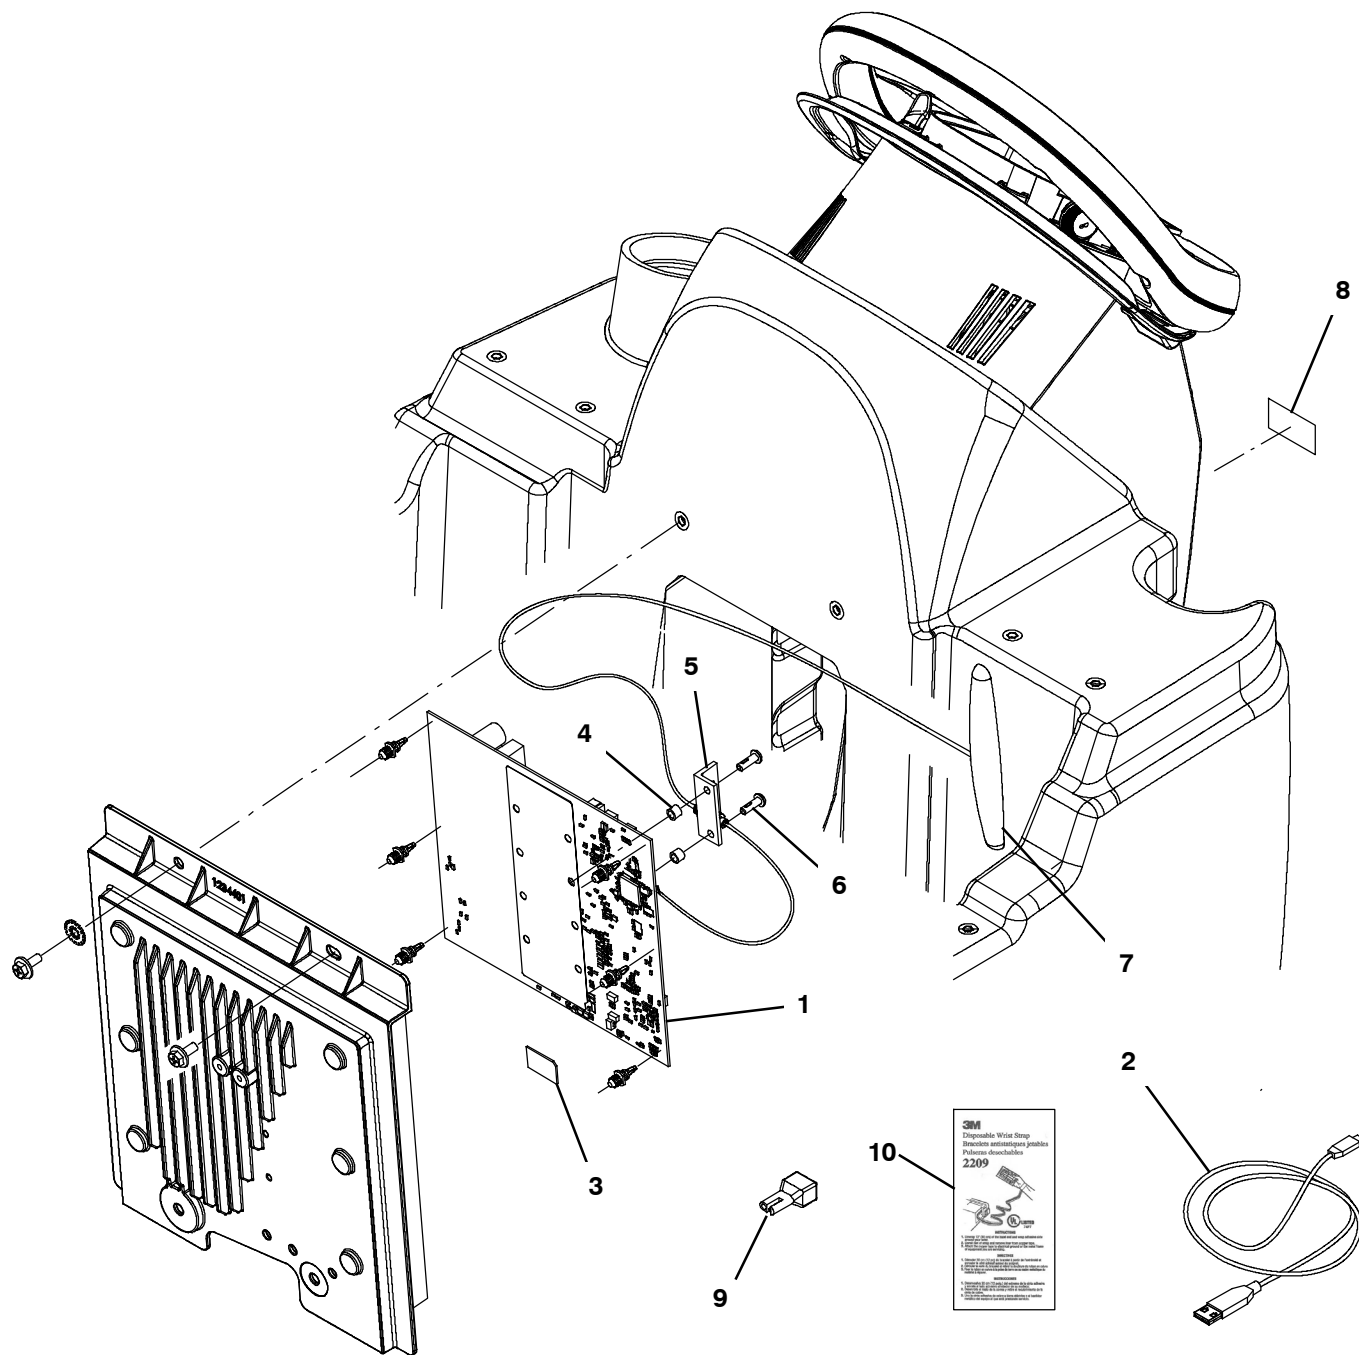

Fig. 35
4. Open the “Downloads” folder and locate the “LE\_Setup\_xxxx” zip file. Open the zip file and double click on the “LE\_Setup\_xxx” file to install the application software on your computer (Figure 35). Follow instructions on screen to install.